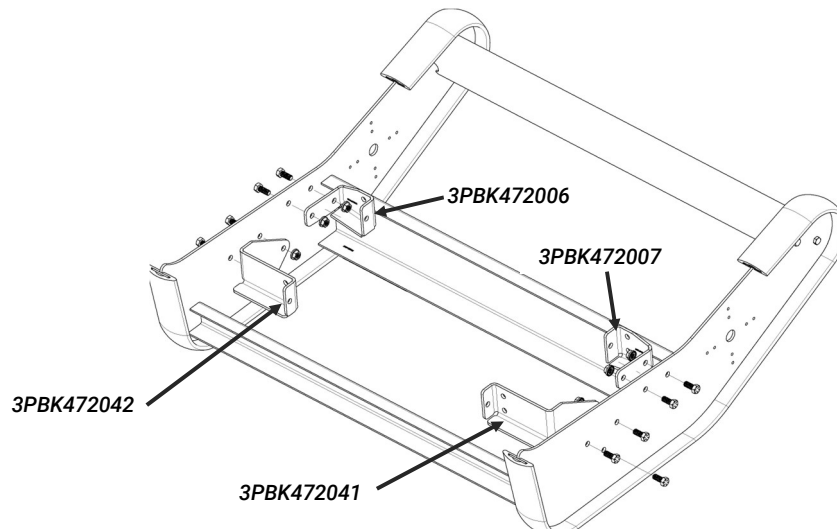

Figure 1
- A. Align the lower driver bumper bracket [3PBK472042] with the lower two holes on the driver side of the push bumper [4PBP472060]. Attach, finger tight, using (2) hex bolts [3X603] and (2) flange nuts [3X601] with the flange nuts on the inside of the push bumper. See Figure 1.
- B. Align the upper driver bumper bracket [3PBK472006] with the upper two holes on the driver side of the push bumper. Attach, finger tight, using another (2) hex bolts [3X603] and (2) flange nuts [3X601].